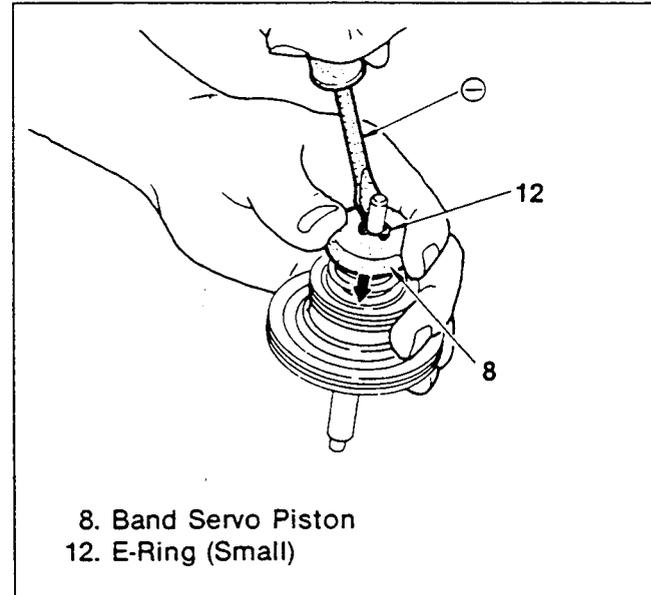

Figure 204. E-Ring Removal
- Do not remove if no fault is apparent (figures 204, 205, 206 and 207).
- Place the piston stem on a piece of wood or the like. Pressing the servo cushion spring retainer down and using a flat-end screwdriver, remove the E-ring (figure 204).